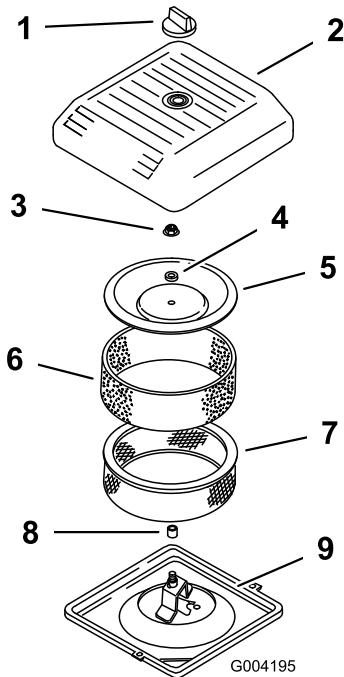

Figure 13
2. Unscrew the knob and remove the air cleaner cover (Figure 13).
3. Carefully slide the foam pre-filter off of the paper element (Figure 13).
4. Unscrew the cover nut and remove the cover, spacer and paper filter (Figure 13).
2. Place the air cleaner assembly onto the air cleaner base (Figure 13).
3. Install the cover, spacer and secure it with the cover nut (Figure 13). Torque the nut to 10.7 N-m (95 in-lb).
4. Install the air cleaner cover and secure with the knob (Figure 13).